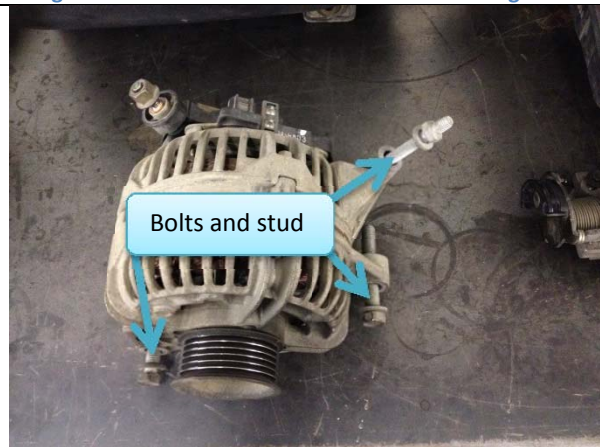

Figure 20: Alternator bolt locations.
- 13.3. Remove alternator bolts and stud (Figure 20)